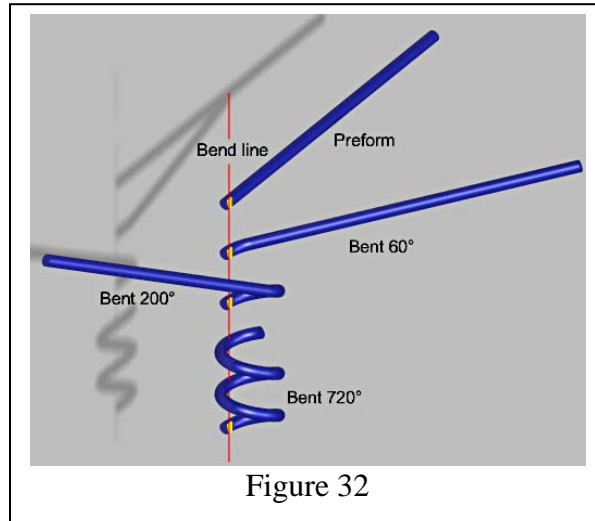

Figure 32
Because spring-making is not a traditional application for Bend Sheet, I have provided Figure 32 in an attempt to illustrate how and why this tool can do the job. The picture demonstrates that a straight *preform* can be bent around a *bend line* to produce a helicoid. The task requires a flat face on the preform and a bend line on that face. Details of the process are explained in the following paragraphs.
- The object to be bent (the *preform*) must have a flat face—we'll call it the “bend face”—and the bend line must lie on that face. If the object does not naturally have a flat face, you must create it. In the examples discussed herein the bend face will be created by 3D-Subtracting a tiny 3D Box from the object. The bend face is colored yellow in Figure 32.
The object in Figure 32 was created with no attempt at precise control of the pitch variation. But if tight control is required, it will be necessary to follow the rather exacting guidelines set forth in Section 5.2.